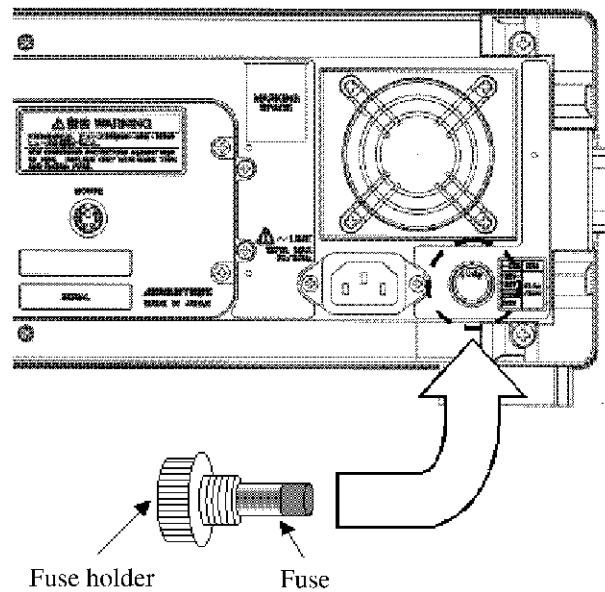

Figure 1-2 Replacing the Power Fuse
3. Remove the rear panel fuse holder by using a screwdriver to rotate it counter clockwise (refer to Figure 1-2).